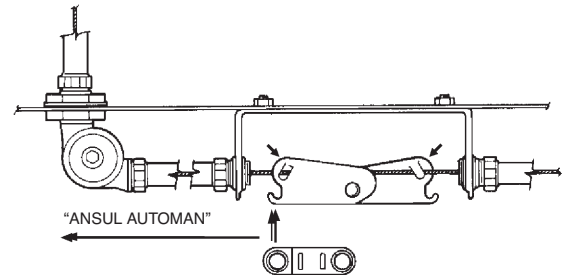

FIGURE 38
7. Install detector scissor assembly as shown in Figure 38. Note that the ANSUL AUTOMAN release is located on the left side of the detector bracket. **Slightly** crimp the two assembly “boot-hooks” over the cable with pliers so the cable is captured under each hook but the whole assembly can move from side to side. Center the assembly in the detector bracket.